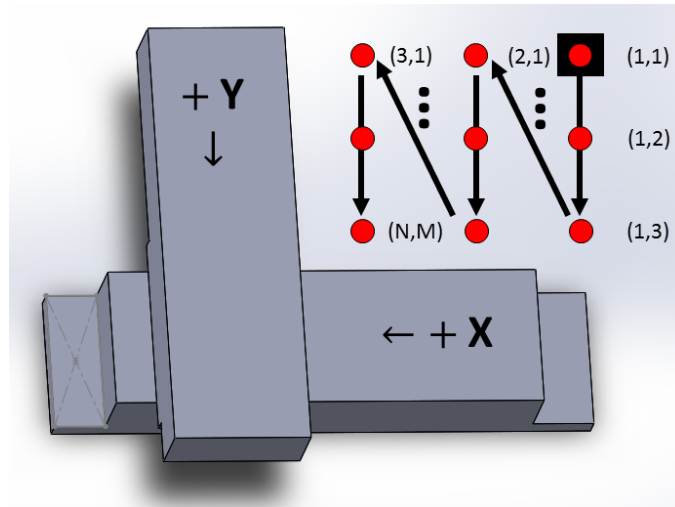

Fig. 1: The x, y stage configuration and scanning order.
- i. REMEMBER: the scan begins at the top right corner of the AOI (see Fig. 1)
- h. Images will be saved as *chip{chip #}\_X{x index}\_Y{y index}.tif* (see Fig. 1)